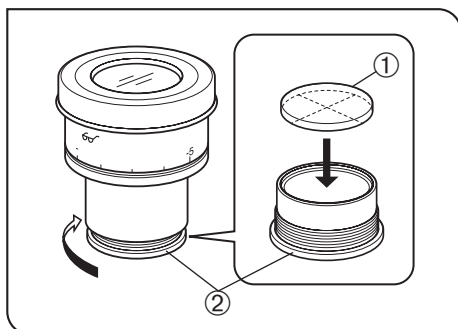

Fig. 26
3 Mounting the Eyepiece Micrometer Disk (Fig. 26)
Following Fig. 26, turn the built-in micrometer-mounting frame ② to the arrow direction to remove it from the eyepiece and place a micrometer disk ① into the mounting frame so that the surface with the model indication faces downward.